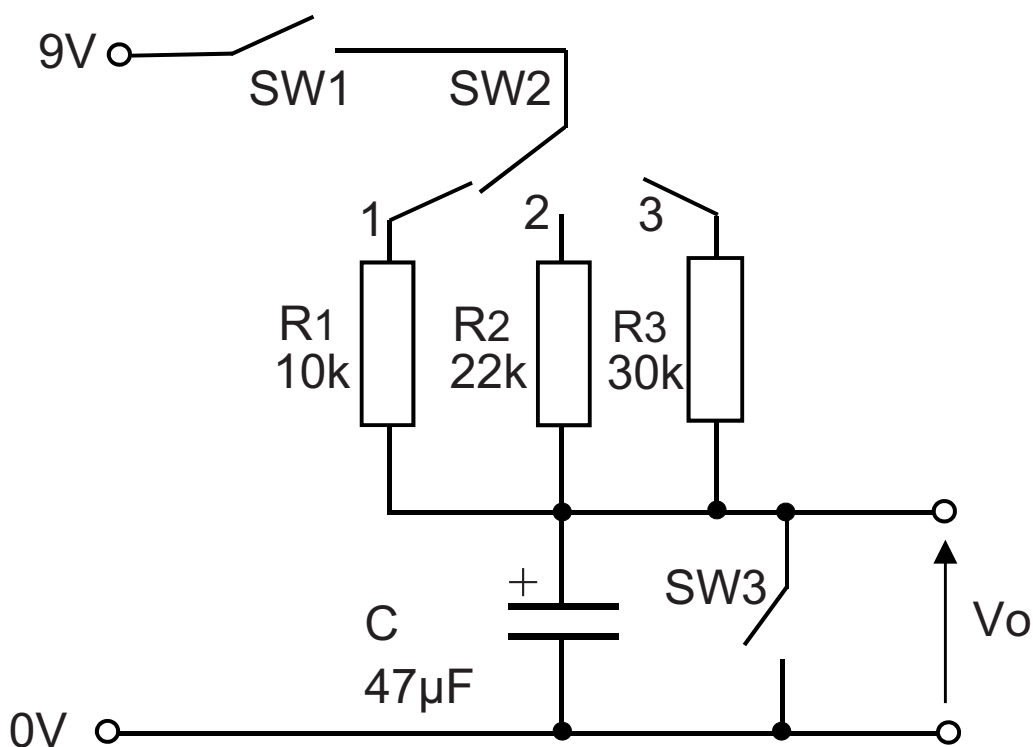

Fig. 1
- 1 (a) A circuit which consists of a power supply, capacitor, three switches and three fixed resistors is shown in Fig. 1.
- (i) Name the type of switch labelled SW2 shown in Fig. 1. [1 mark]
(ii) The capacitor shown in **Fig. 1** is an electrolytic type. State **two** general characteristics of electrolytic capacitors. [2 marks]
(iii) Calculate the time constant for the circuit shown in **Fig. 1** when the switch SW2 is in position 2. [2 marks]
(iv) Sketch a graph on the axes provided below to show V_o against time for the circuit shown in **Fig. 1** (assume the capacitor is initially discharged).